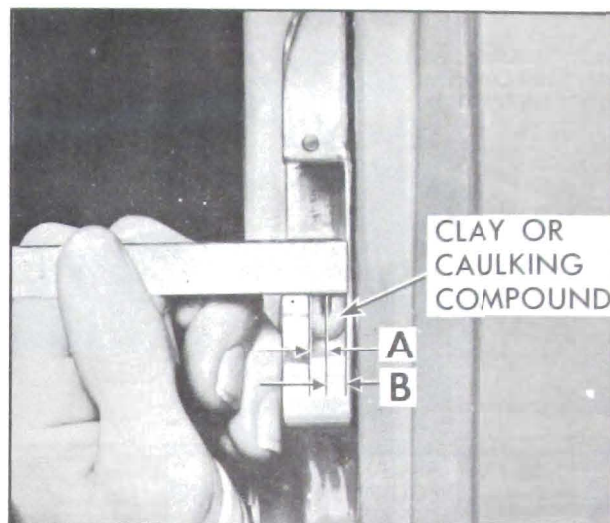

Figure 4-26—Striker Engagement Check
b. To determine if tail gate lock striker emergency spacers are required, apply molding clay or body caulking compound in the lock striker notch where the lock extension engages and then close the tail gate to form a measurable impression in the clay or caulking compound, as shown in Figure 4-26.